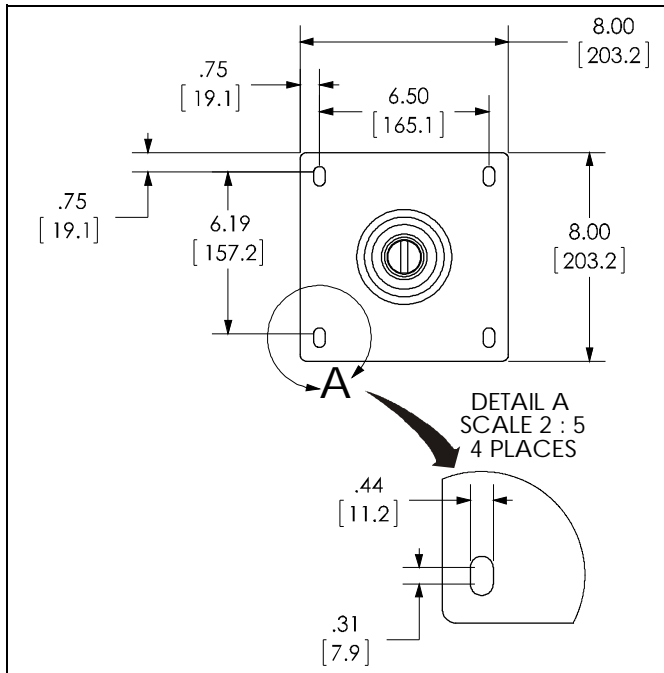

Figure 1
1. Use 5/16-18" x 2-1/2" (minimum) Grade 2 lag screws (not provided) to secure CMA100 to the joists or wood framework, using the bolt holes noted. (See Figure 1)
1. Insert the rods into the four bolt holes in the CMA100. (See Figure 1)